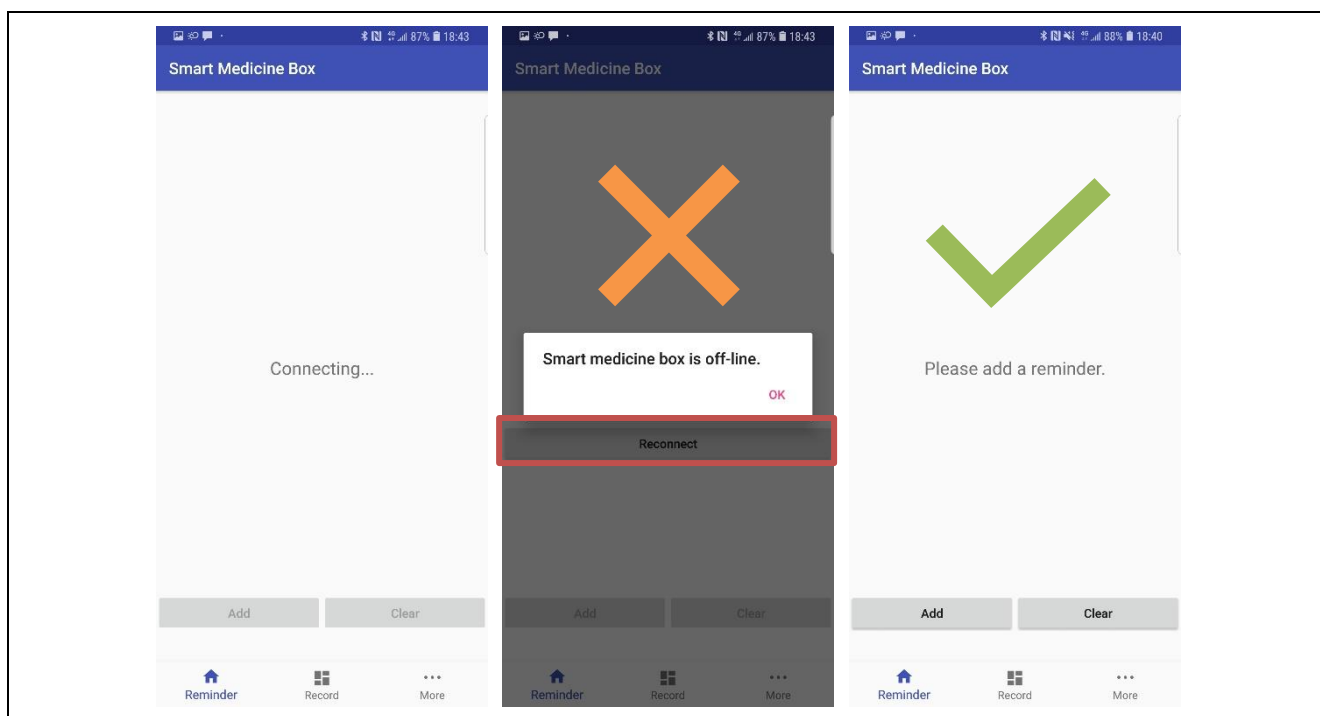

Figure 3.8 Smart Medicine Box On-line Checking
(3) MQTT protocol is used for communication within the smart medicine and mobile phone app. When the smart medicine box is added successfully, the real-time calibration message will be sent to the smart medicine box via MQTT automatically. The RL78/G13 MCU will update the real-time clock to the current time and display the HH:MM on the 4-digit 7-segment LED. At the same time, RL78/G13 will send the response through MQTT to the mobile app to indicate that the smart medicine box is on-line.
The smart medicine box's on-line or off-line status will be checked automatically. If the smart medicine box is on-line, the "Add" and "Clear" button will be enabled. If the smart medicine box is off-line, check the LED blinking status on the Wi-Fi Module. Check the Wi-Fi and network connection and wait until the LED blinks at 1 second interval, click the "Reconnect" button again. Or go back to (2) to add the smart medicine box again. This setting procedure is shown in Figure 3.8.